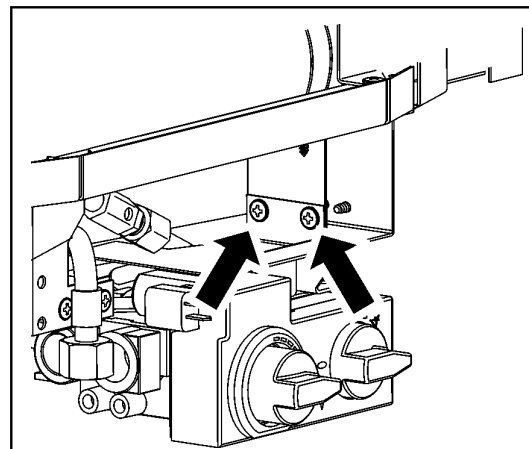

Figure 27. Gas valve shield removal.
3. Unscrew and remove the two screws from the gas valve shield (See figure 27). Place the shield to one side.